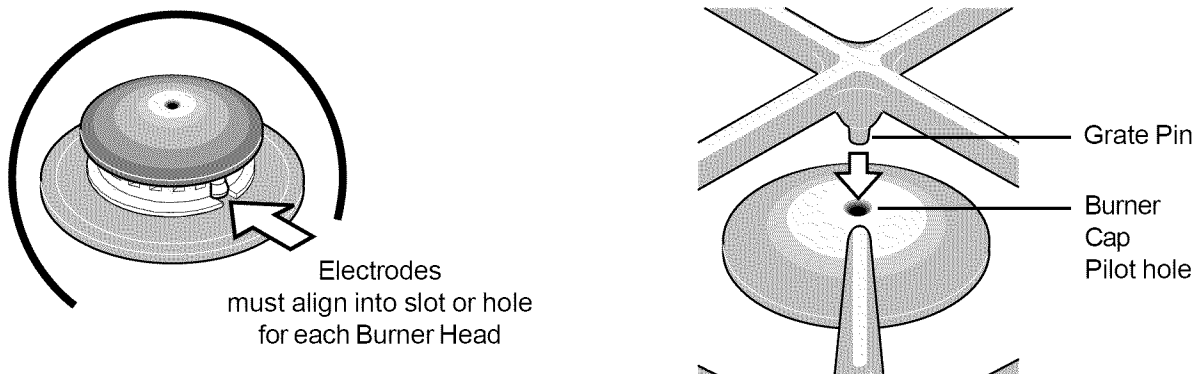

Fig. 5
- All of the Burner Heads MUST have the Burner Caps correctly installed to insure proper ignition and gas flame size. NOTE: The Burner Electrodes must be located properly in slot or holes of each Burner Head (See Fig.5).
- NOTE: Do not force End Burner Grates down on cooktop. Be careful to line up the 2 Grate Pins located on each of the 2 End Burner Grates into the Pilot holes located on top of the Burner Caps (See Fig. 5). Position Burner Grates on cooktop and check that all the Burner Grate legs lie on the cooktop surface.
- Remove the 4 LP burner orifices using 7mm nutdriver & replace with the 4 original factory installed natural gas orifices at their original locations (See Fig. 5 for locations).